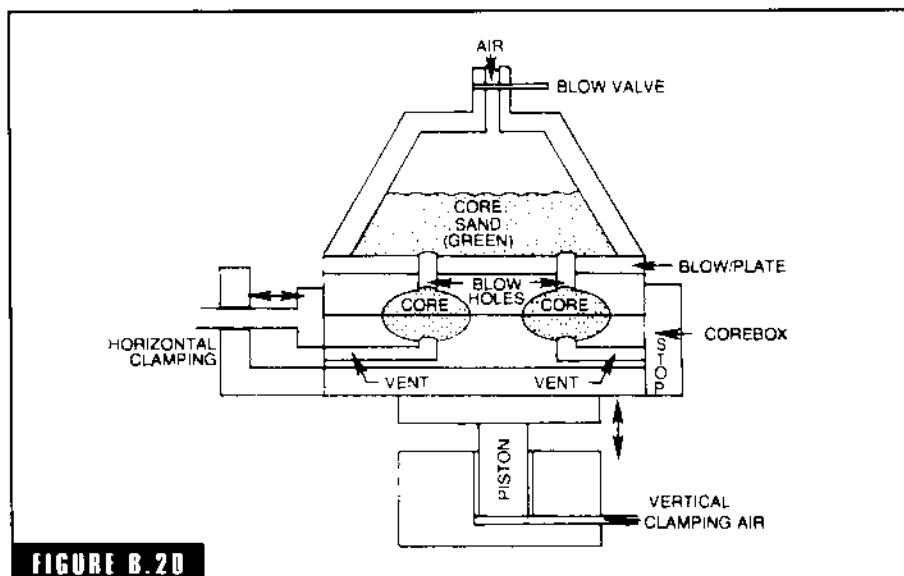

FIGURE B.20
**blowing of cores** Cores are often produced on machines called *core blowers*, which vary greatly in size, capacity, and mechanization (Fig. B-20). However, regardless of the blower design and size, the principle is the same. The sand mix is blown into the core box by introducing air at high pressure on the sand in a reservoir, thus blowing the sand into the core box through blow holes in the top of the core box and through the blow plate on the sand